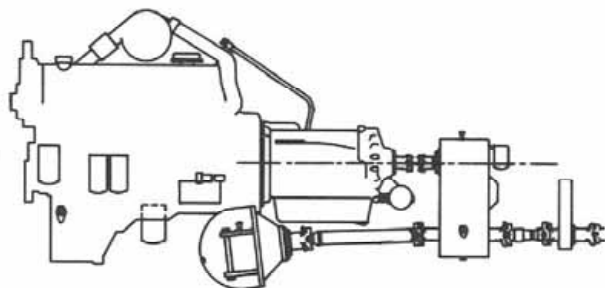
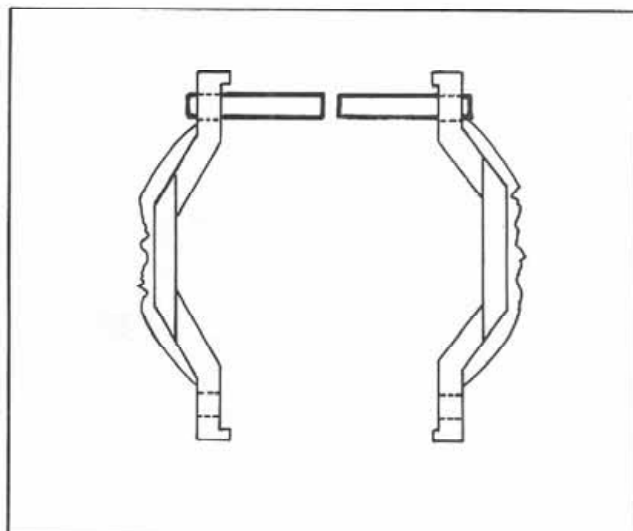
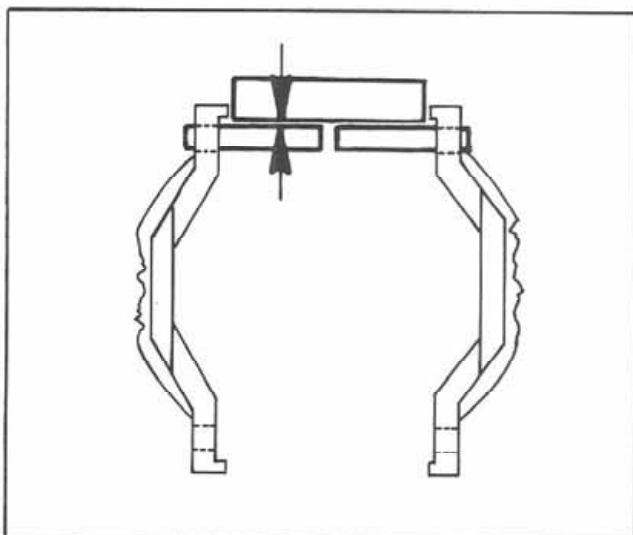

Figure 8:
Figure 9:
Figure 10:
8. After installation and torquing of all the transfer case mountings, check alignment of the transmission output shaft to the transfer case input shaft (Fig. 8). Do this check by removing the u-joints if still on the yokes, and install threaded studs into the yoke flanges (Fig. 9). Place a straight edge or gauge block on the studs (Fig. 10) and rotate both yokes slowly in the same direction while keeping them aligned. The gap between either stud and block must not exceed .060 inches (1.52 mm) throughout one full revolution of both yokes.